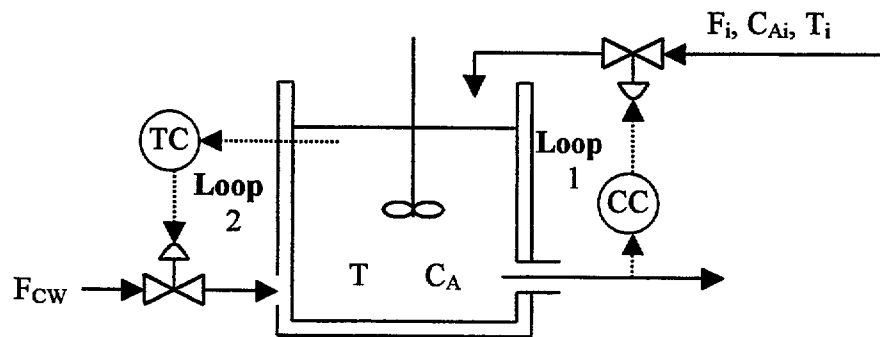

Figure 5. Control loops for CSTR
- a) Considered the Continuous Stirred Tank Reactor (CSTR) given in Figure 5. The inlet flow rate F_i is used to control the product concentration C_A (loop 1) and the coolant flow rate F_{CW} to control the tank temperature T (loop 2). The input stream is coming from an upstream unit and might vary both in concentration C_{Ai} and temperature T_i .